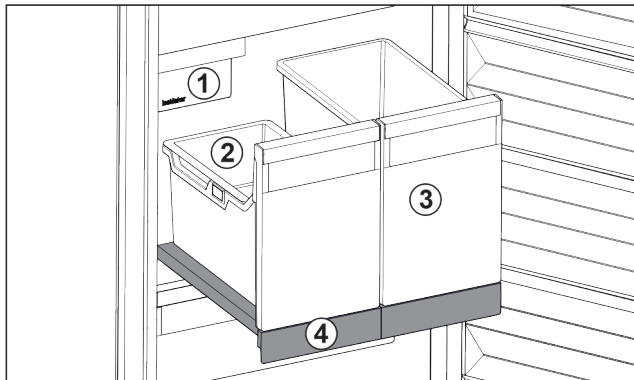

Fig. 22 Pull-out board with IceTower
On the pull-out board are two tall containers (IceTower). Ice cubes from the IceMaker are collected and stored in the container Fig. 22 (2). The container Fig. 22 (3) is suitable for storing tall foodstuffs or beverages such as pizzas or alcoholic drinks.